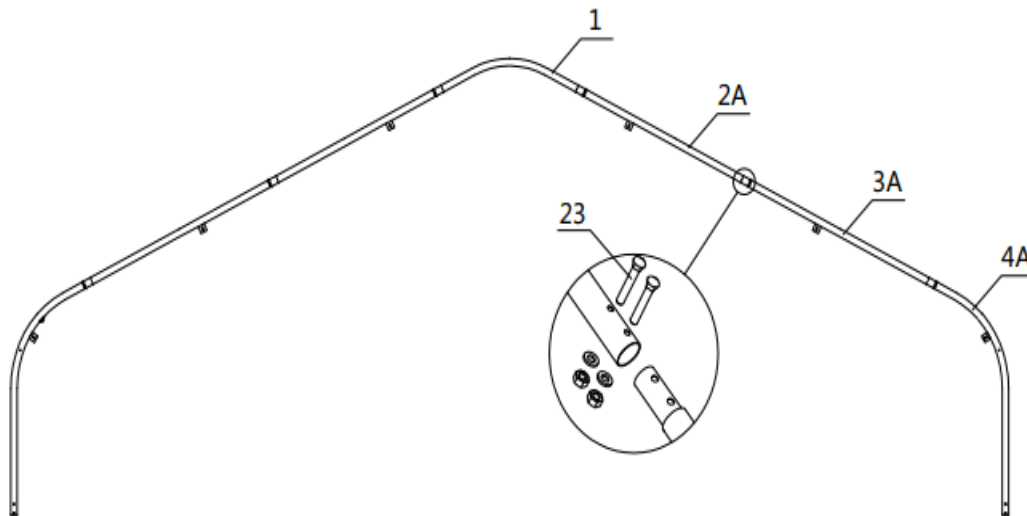

Figure 2
- The building includes 29 trusses : (2) front and rear truss, and (27) middle trusses.
- Parts used to install the front and rear truss in this step (refer to figure 2) :